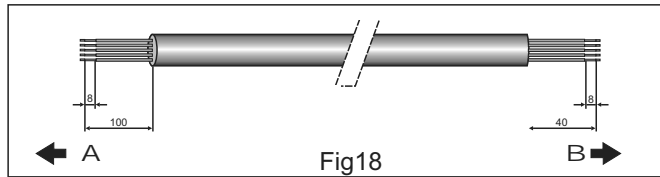

Fig.18 A.OUTDOOR B.INDOOR
2. Prepare the multiple wire(7)cable ends for connection as shown in fig. 18.